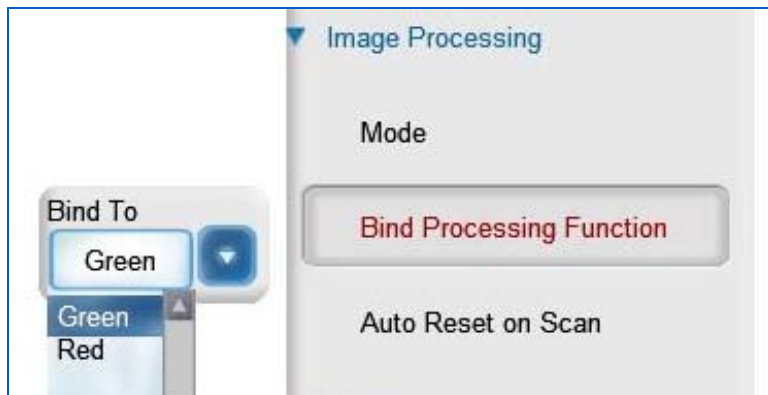

Figure 159: Image Processing – Bind Processing Functions
6. Using the touchpad, move down to highlight the Bind Processing Functions button and left-click on the button. The Bind Processing Functions drop down menu will appear (Figure 159)